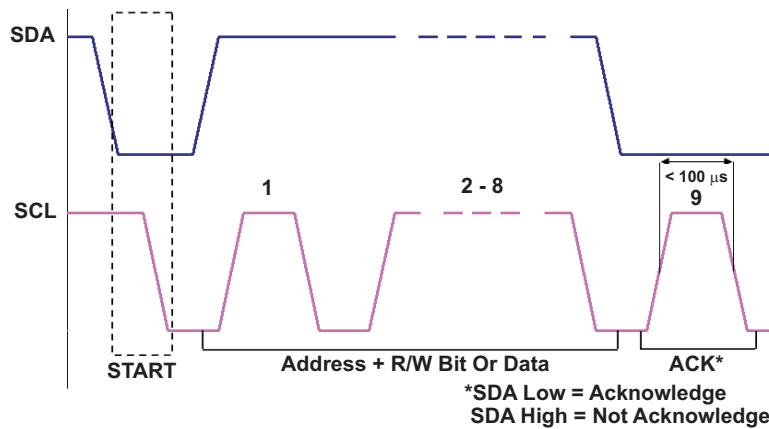

Figure 8. Acknowledge Bit Requirements
- Acknowledge bit (Figure 8): Acknowledge (ACK) or no-acknowledge (NACK) occurs on the ninth rising edge of SCL during each byte. After ACK or NACK, SCL must fall within 100 µs of SCL rising.